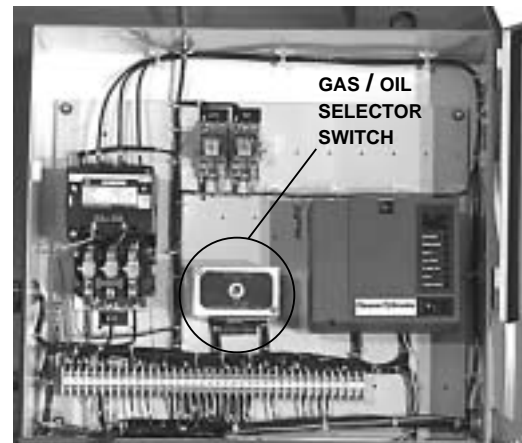

Figure: 2-23 Standard Control Panel
- (1) Gas-Oil Switch (Figure 2-23): Burners equipped to burn either oil or gas include equipment for each fuel. The selector switch engages the appropriate interlocks and controls for gas or oil operation. Chapter 4 details the required mechanical functions of each fuel system.